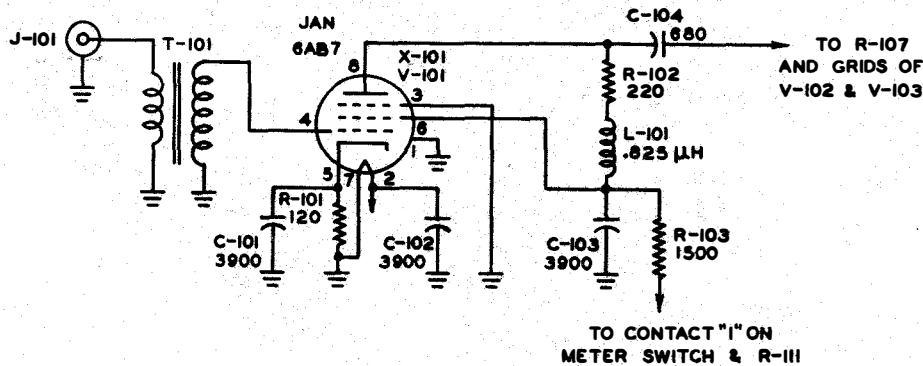

Figure 2-2. Antenna Multicoupler Unit, Input Stage, Schematic Diagram
a. INPUT STAGE. (See figure 2-2.)—This stage is designed for use with a 75-ohm coaxial line. The coaxial line from the antenna system is coupled to the grid of the input tube through a r-f transformer (T-101). A JAN-6AB7 tube (V-101) is connected as a pentode in this stage. The tube is biased by means of a 120-ohm cathode resistor (R-101). C-101 is a 3900-microfarad mica capacitor that bypasses the radio-frequency component around R-101. R-103 is a 1500-ohm decoupling resistor to prevent interaction between amplifier stages, with C-103 functioning as a plate and screen supply bypass capacitor for this stage. R-102 and